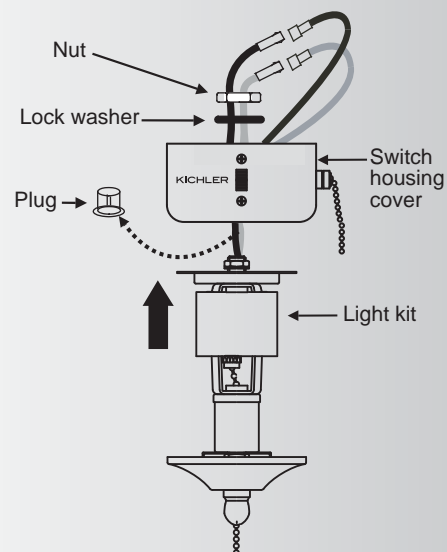

Fig. 17
1. Remove the plastic plug from the switch housing, attach the light kit to the switch housing by feeding the light kit wires (black and white) through the hole of switch housing cover and then screw it onto the switch housing cover by nut & lock washer provided. Be sure it is tight enough to prevent light kit from vibrating loose. (Fig. 17)